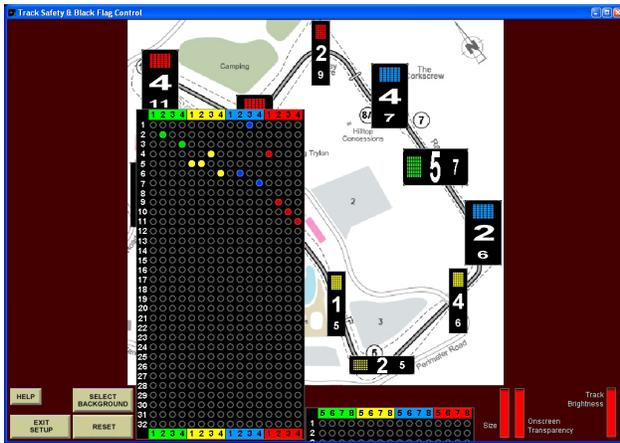
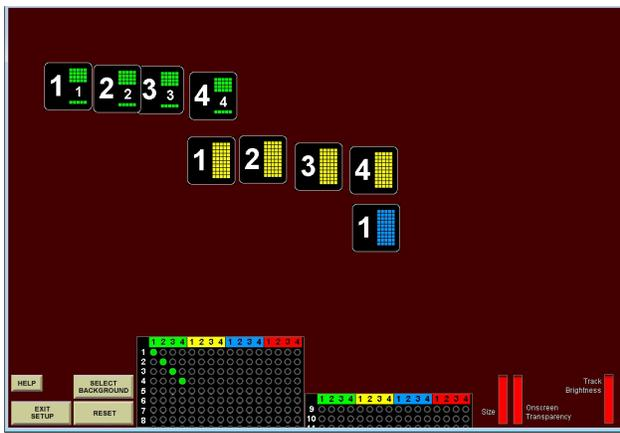
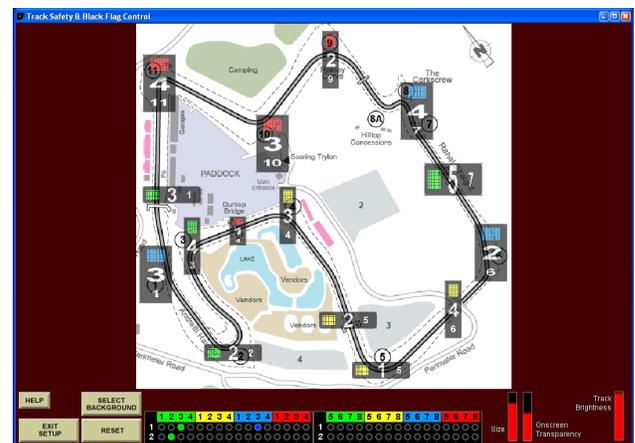

Figure 4a - Track Setup Screen (IP network)
Figure 4b - Track Setup Screen (wireless)
Figure 6 - Size and Transparency example (compare to Figure 4)
This screen, displayed in Figure 4a for IP network and Figure 4b for wireless, is used to configure the onscreen overhead view of the track and position of each DSF/TSL.
**TRANSPARENCY** - To change the displayed transparency level of the IDs onscreen, click and hold down while dragging the red bar up or down within the Transparency bar. Note the onscreen ID will become more transparent as the red bar shrinks in size. Compare size and transparency settings and ID in Figure 4a and Figure 6.